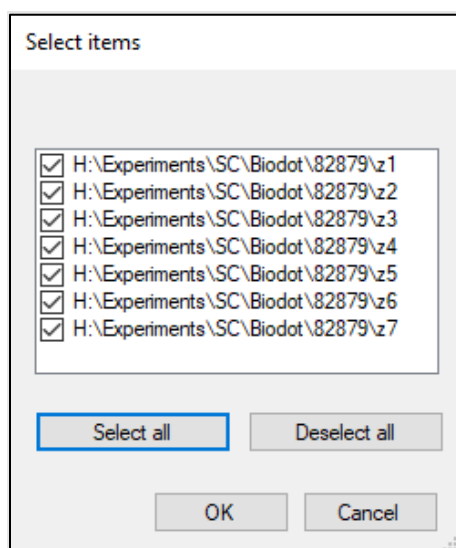

Figure 56. Selection window for inclusion/exclusion of the z-plane images subfolders.
3. Next, you will be asked to select the z-planes that you want to examine. It is recommended that you select all z-planes, but you can check or uncheck the folders to include and/or exclude certain folders, if needed (Figure 56).